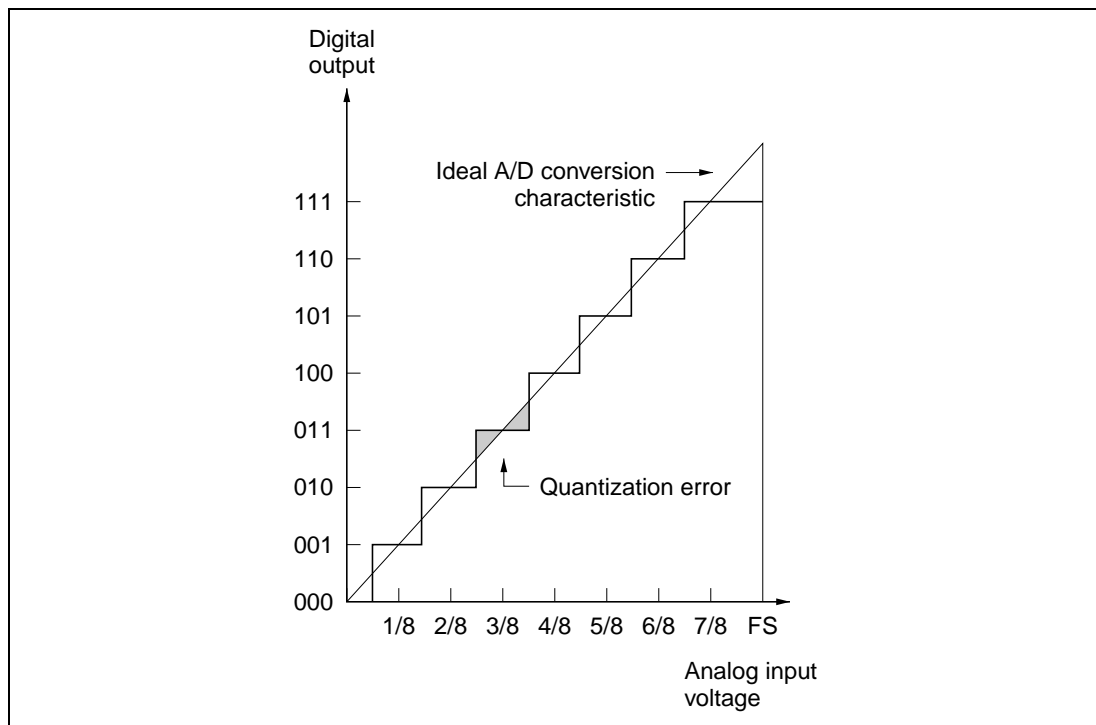

Figure 15.9 A/D Converter Accuracy Definitions (1)
- Quantization error:Intrinsic error of the A/D converter; 1/2 LSB (figure 15.9)